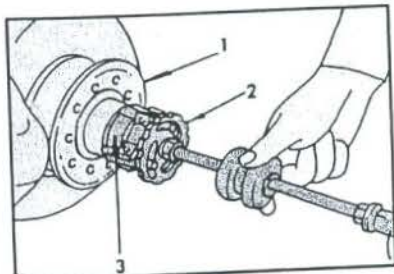

Fig. 4.10 – Removal of the hub grease cap with the special puller (impact hammer).
- Remove the hub grease cup. Normally a puller, as shown in Fig. 4.10, is used. Otherwise you may need an impact hammer, suitably attached to the cap.
- Slacken the clamp nut (2) in Fig. 4.10 with an Allen key as shown in Fig. 4.13, unscrew the nut and remove the thrust washer underneath it.
- Remove the wheel hub from the axle stump. A tight wheel hub can be removed with a slide hammer in a similar manner as shown in Fig. 4.10 or a puller is used. Thoroughly clean all parts of the wheel hub and the axle stump and check for wear.